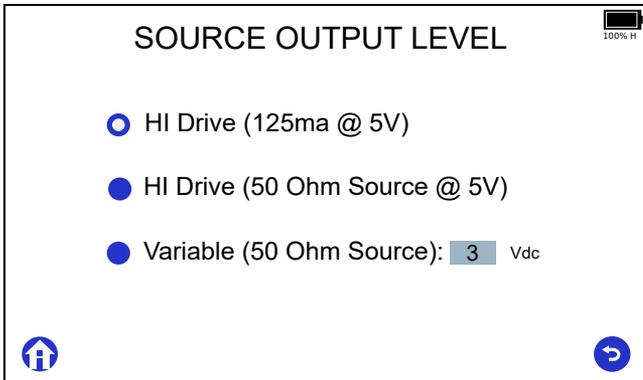

Figure 16: 1 PPS Source Output Level Configuration Screen
2. Touch **OUTPUT LEVEL** to set the output voltage – see Figure 16.